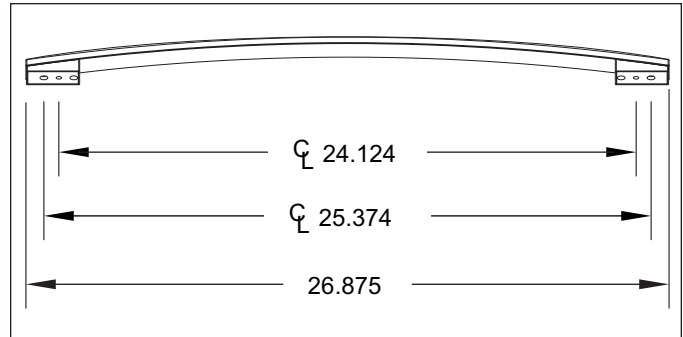

Figure 7. Curved Framed Handle Dimensions
1. Mark custom panel to locate the drill holes using the center-line dimensions from Figures 7 or 9. Drill four (4) 7/32" to 1/4" holes.